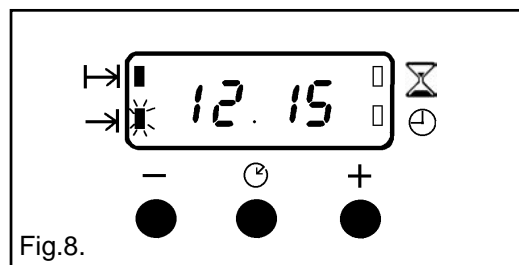

Fig.8.
- v) To set the 'End Time'. Press the Selector Control button until the 'End Time' (⏰) indicator flashes. Press the increase control (+) until the required stop time is displayed, e.g. 12.15 p.m. as Fig. 8. If necessary press the decrease control (-) until the correct time interval is achieved.